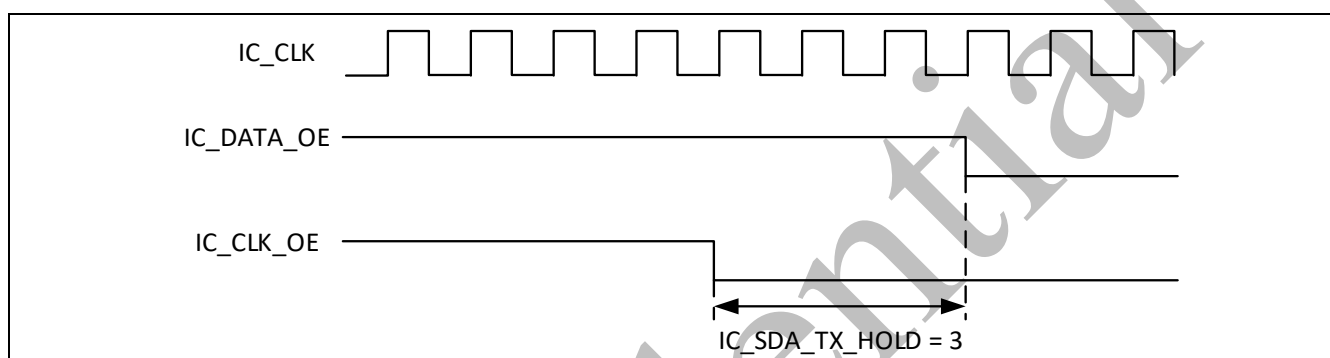

Figure 3-79 I2C Master Implementing tHD:I2C\_DATA with SDA\_TX\_HTLR = 3
- Figure 3-79 shows the tHD:I2C\_DATA timing generated by the I2C operating in Master Mode when SDA\_TX\_HTLR = 3.